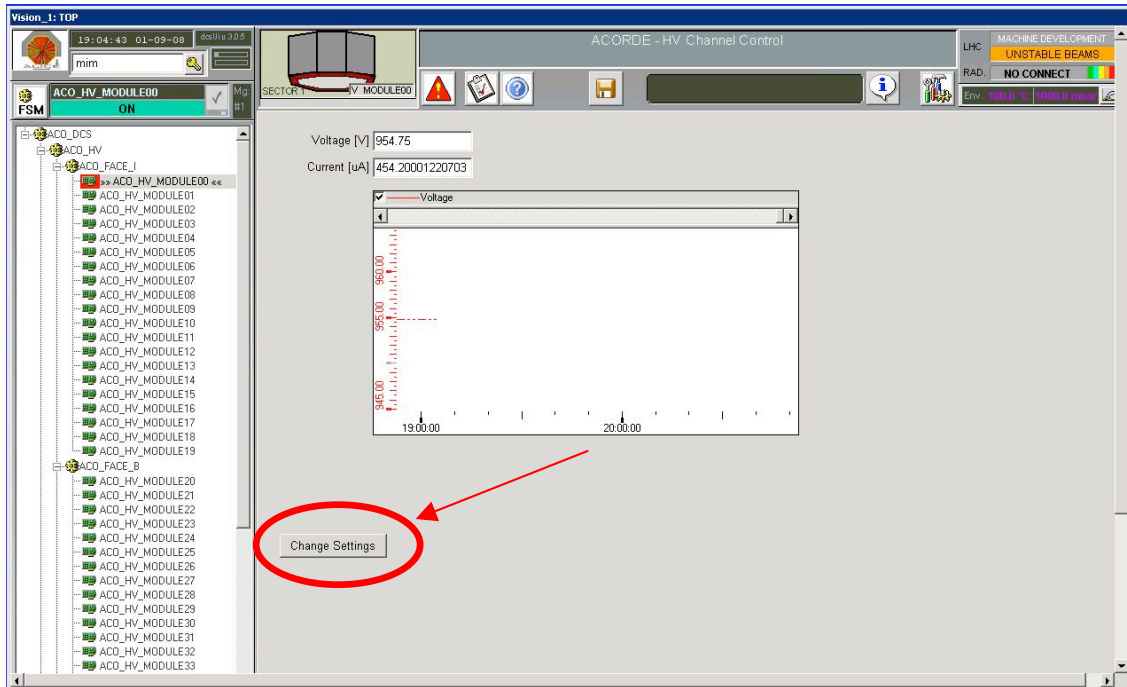

Figure 5 – Single module HV control panel
The panel shown in Fig. 5 will appear. It contains a graph where the history of voltage changes is displayed, the monitored voltage and current.
- Click on “Change Settings” button (see Fig. 5)